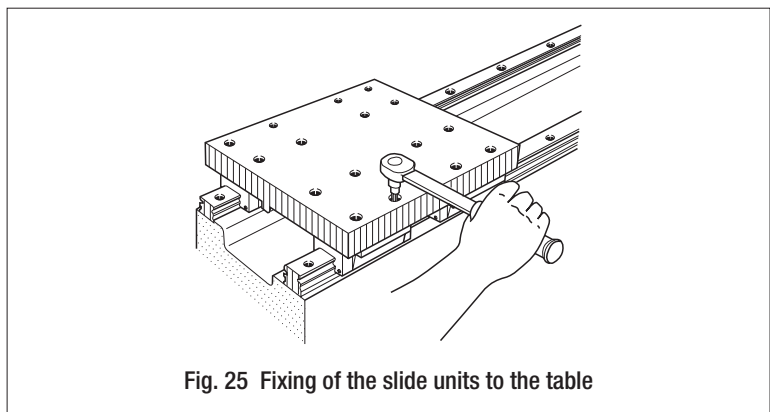

Fig. 25 Fixing of the slide units to the table
- Correctly fix one of the slide units of Linear Way II in relation to the linear motion direction and leave other slide units temporarily tightened with mounting bolts. (See Fig. 25.)